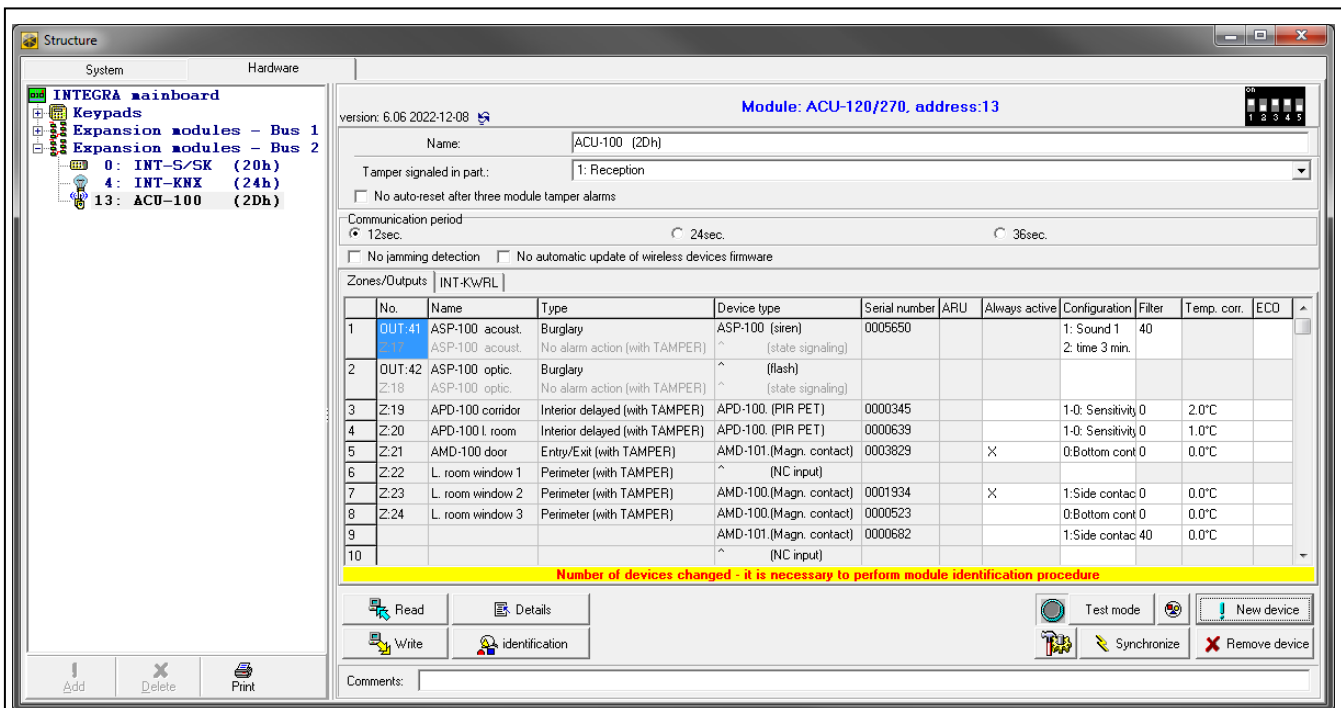

Fig. 23. DLOADX program: information displayed after registration of a new device to the controller in the INTEGRA system.
10. Click the “identification” button (see Fig. 23). The new wireless zones / outputs will not be available in the alarm system until the procedure of expander identification is finished.